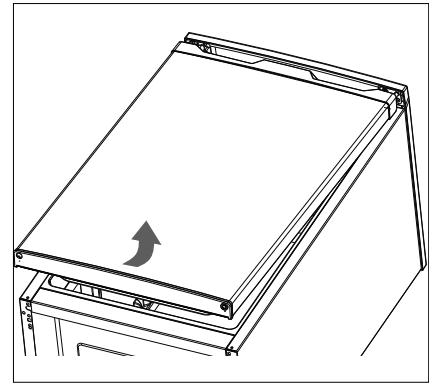

Fig. 4
- ▶ Lift the freezer door (4) slightly at the bottom and pull the freezer door off the upper hinge pin (Fig. 4).
- ▶ Place the freezer door (4) to one side on a soft surface to avoid scratches and secure it against falling over.